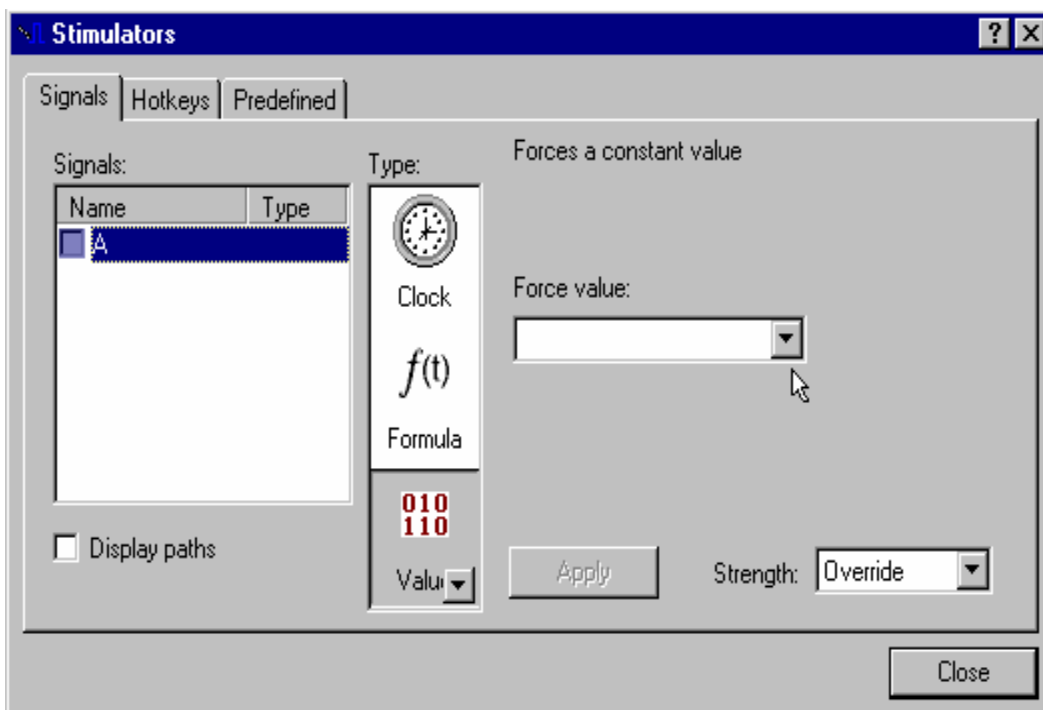

Figure 46
2. Select the desired value from the “Force value” field (see Figure 46 on the next page).